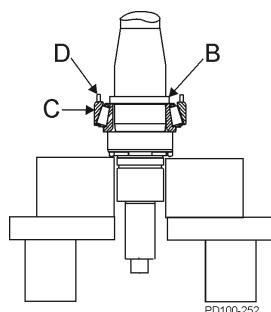

Figure 80 - Install Inner & Outer Spacer and Lower Cup
2. Place the inner spacer (Figure 80, item B) over the shaft onto the lower cone and roller assembly.